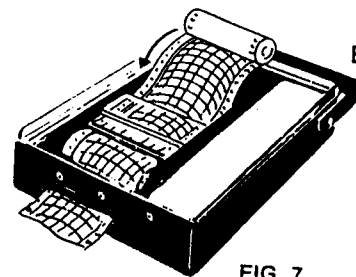

FIG. 7
2. A. Place chart in the well at top of recorder. Unroll about nine inches of chart with printed, white side up. (See Fig. 7.)